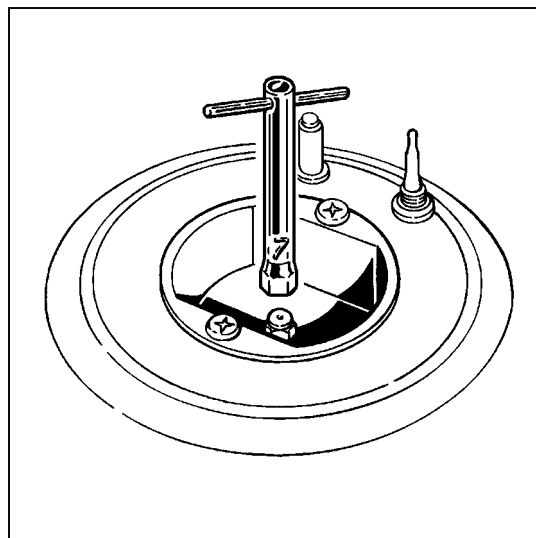

Fig. 2
- Unscrew the jets (Fig. 2) using the 7 mm. Key and replace them with the new ones (see table 1). Check the exact correspondence of the diameter indicated on the table with that printed on the jets.